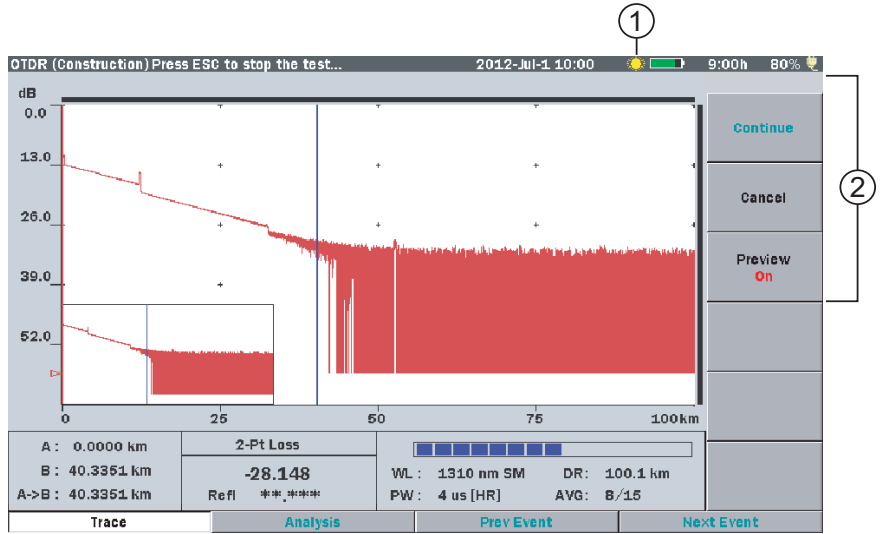

Figure 6-18: Test in Progress screen – OTDR (Construction) mode
When a test has been started, Construction mode enters Analysis mode, displaying the Test in Progress screen (see Figure 6-18).
The flashing Laser On icon (item 1 in Figure 6-18) appears whenever a laser is firing. In OTDR (Construction) mode, the Laser On icon appears on the Test in Progress screen only.
The OTDR (Construction) Test Results screen appears at the end of each test, providing that **Preview (F3)** is set to “On” on the Test in Progress screen (see Figure 6-18 on page 6-49).